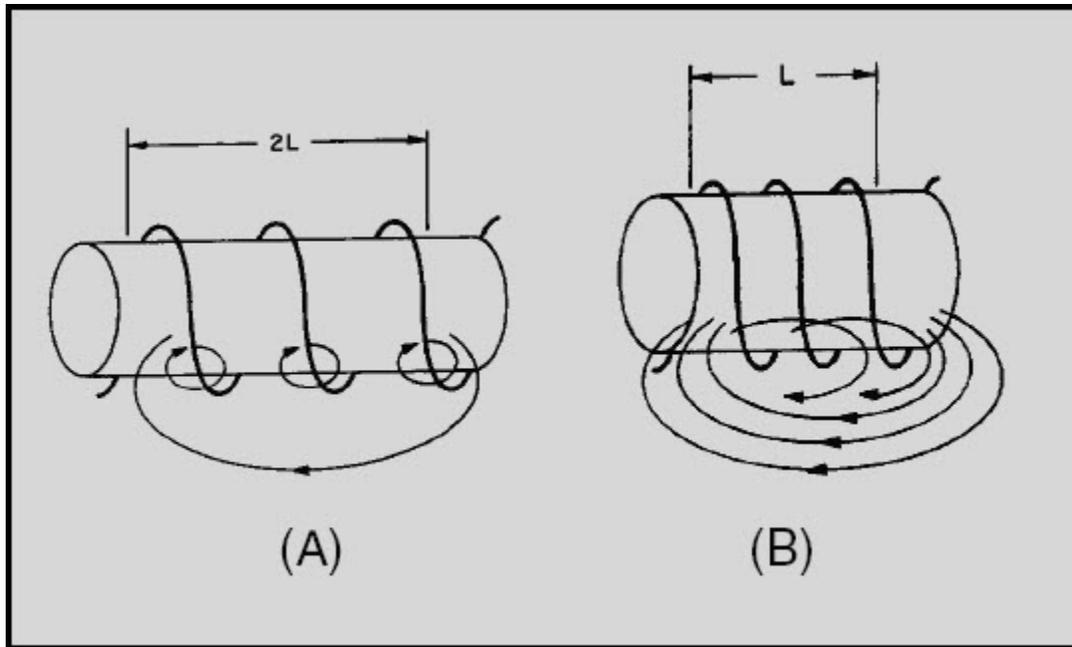

Figure 2-7 Inductance factor (coil length). CLOSELY WOUND
The third factor that affects the inductance of a coil is the length of the coil. Figure 2-7 shows two examples of coil spacings. Coil (A) has three turns, rather widely spaced, making a relatively long coil. A coil of this type has few flux linkages, due to the greater distance between each turn. Therefore, coil (A) has a relatively low inductance. Coil (B) has closely spaced turns, making a relatively short coil. This close spacing increases the flux linkage, increasing the inductance of the coil. Doubling the length of a coil while keeping the same number of turns halves the value of inductance.